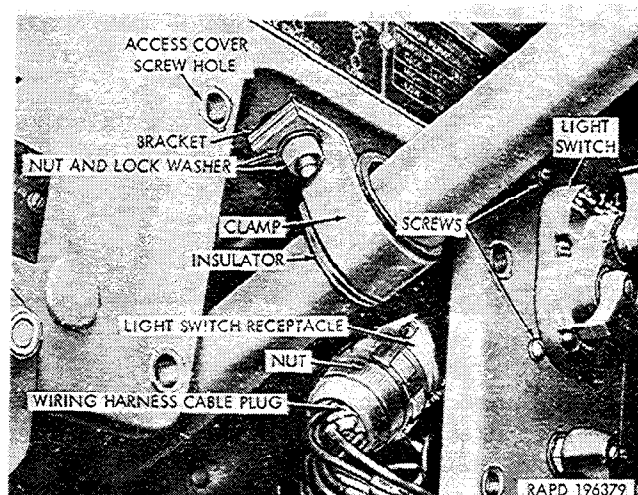

Figure 2-55. Steering column access cover removed.
(1) Install the light switch (fig. 2-55) from the underside of the instrument panel. Secure with four lockwashers and screws.
(2) Install the wiring harness cable plug in the light switch receptacle, and screw the grommet retaining nut to the receptacle. If the switch is provided with a trailer coupling receptacle, connect the trailer coupling wiring harness in the same manner.
(3) Install the steering column access cover on the instrument panel with the four lockwashers and screws, being careful to position the cover in such a manner that it does not cause binding at the steering column.